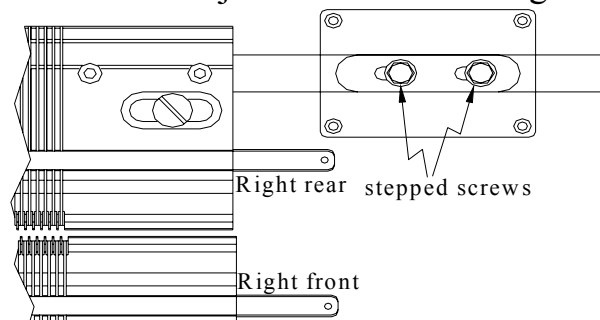

Fig.9.2 Adjusting the position of needle bed
- ④ If there has racking instruction in programming, you must enter the test mode to rack the needle bed in the set position before you execute tun, and make sure the racking mechanism is matched your programming.
- ⑤ If the corresponding position of needle bed is not proper, loosen the stepped screws and adjust the rear bed to correct position, then tighten the stepped screws after adjustment. Refer to Fig.9.2.